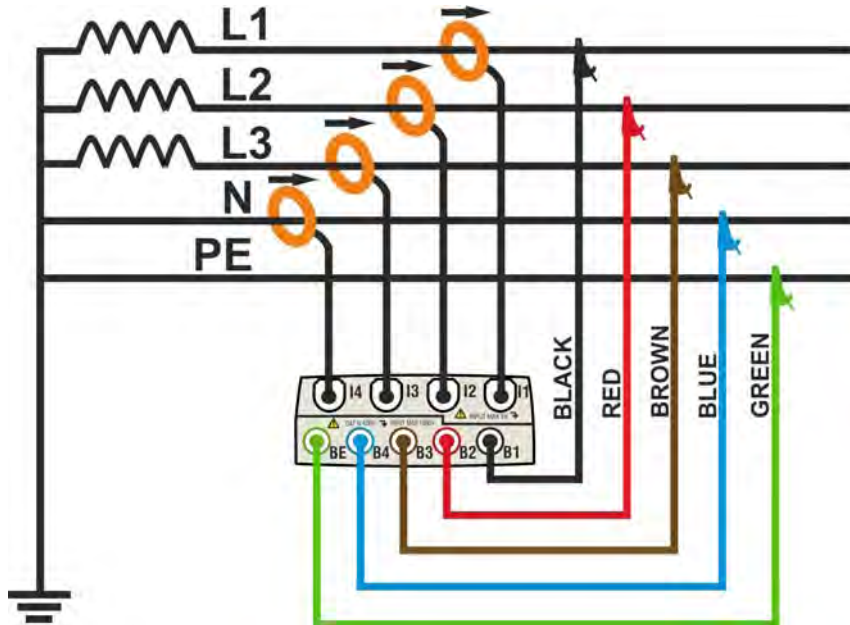

Fig. 116: Meter connection in a three phase 4-wire system – ENG type
2. Connect voltage test leads on Phases L1, L2, L3, Neutral and Ground cables considering the colours as shown in Fig. 116. **Verify the result “123” at display relative to a correct phase sequence indication** (see § 5.2.1) and perform the corrections if necessary.
3. Connect the transducer current clamps on Phase L1, L2, L3 and Neutral N cables as shown in Fig. 116 respecting the clamp’s arrow direction indicating the current standard sequence from generator to load. **On Real Time Values’ section screens always verify the positive value of Active Power and the power factor relative to each load which should be normally inductive** before starting a recording. Reverse the clamp by 180 degrees on cables in case of negative readings.